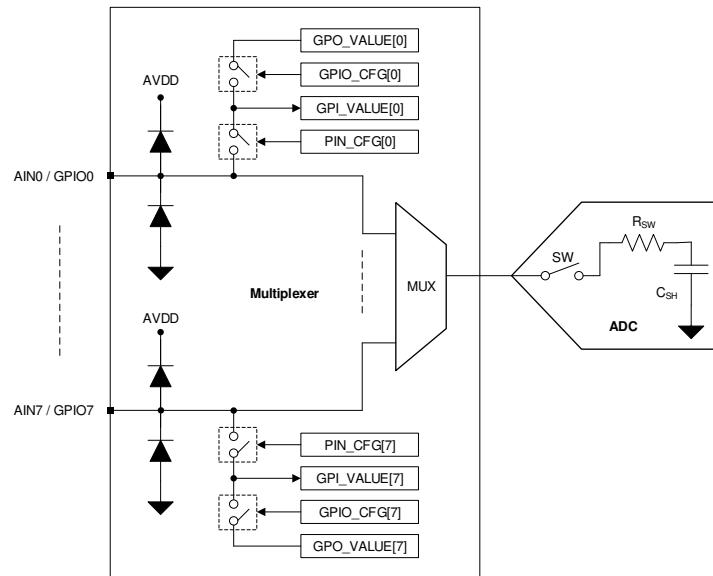

Figure 6-1. Analog Inputs, GPIOs, and ADC Connections
The eight channels of the multiplexer can be independently configured as ADC inputs or general-purpose inputs/outputs (GPIOs). As shown in Figure 6-1, each input pin has ESD protection diodes to AVDD and GND. On power-up or after device reset, all eight channels of the multiplexer are configured as analog inputs.
Figure 6-1 shows an equivalent circuit for the pins configured as analog inputs. The ADC sampling switch is represented by an ideal switch (SW) in series with a resistor (R_{SW} , typically $150\ \Omega$) and a sampling capacitor (C_{SH} , typically $30\ pF$). During acquisition, the SW switch is closed to allow the signal on the selected analog input channel to charge the internal sampling capacitor. During conversion, the SW switch is opened to disconnect the analog input channel from the sampling capacitor.
To enable write access to the configuration registers for diagnostics, write 0x96 in the DIAGNOSTICS_KEY register. To enable bit-walk test mode, configure BITWALK_EN = 1b. In the bit-walk test mode (see Figure 6-1), the sampling switch (SW) remains open and the test voltage is applied on the sampling capacitor (C_{SH}) during the acquisition phase of the ADC. In diagnostic mode, the conversion process of the ADC remains the same as normal device operation. The ADC starts the conversion phase on the rising edge of \overline{CS} and outputs the code corresponding to the sampled test voltage. The output code of the ADC is expected to be proportional to the test voltage, as shown in Equation 2, after adjusting for DC errors (such as INL, gain error, offset error, and thermal drift of offset and gain errors).